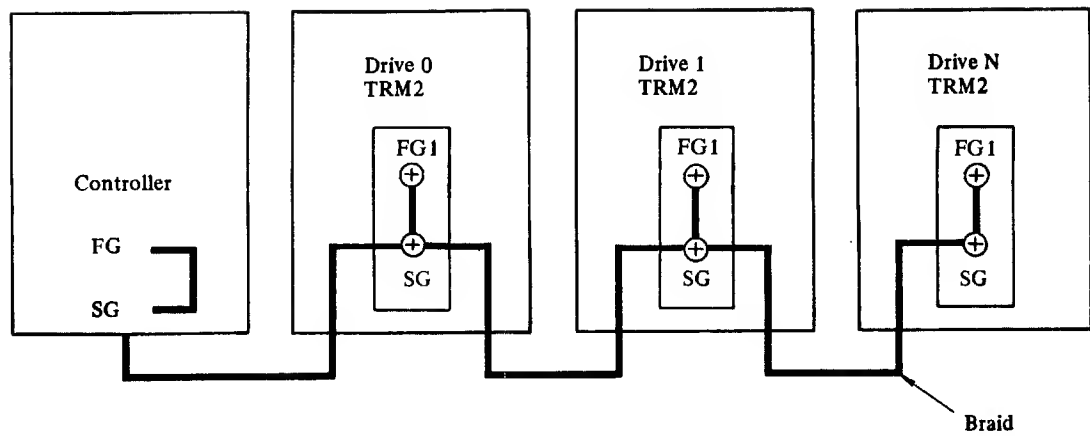

Fig. 4.3-2 SG/FG1 Common
- (b) Leave SG connected to FG2 (shipping configuration) and connect a flat braid wire to controller ground. If daisy-chained, daisy-chain the braid from SG to SG as shown in Figure 4.3-2.